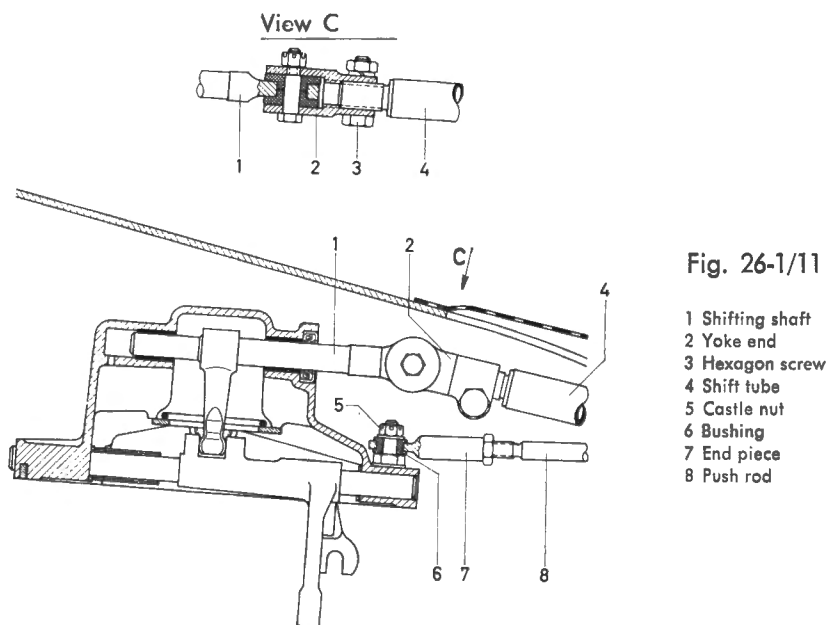

Fig. 26-1/11
Remove the two push rods (8) on top of the transmission case cover. Slacken the clamping screw (3) on the yoke end (2) and pull the shift tube (4) from the splines of the yoke end toward the rear (Fig. 26-1/11).
Install and attach the two push rods (8) to the threaded bolts on top of the transmission case cover (Fig. 26-1/11). Insert the shift tube (4) in the splines of the yoke end and adjust the gear shift mechanism (see Job No. 26-3).